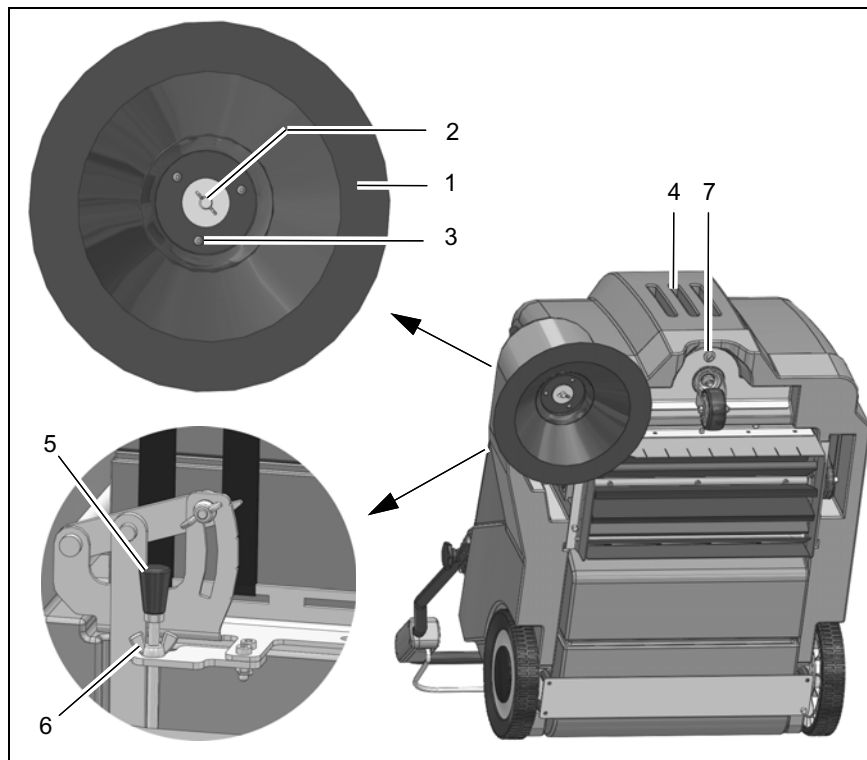

Fig.8
Check the side brush (Fig. 8/1) weekly and change in the case of wear.
2. Remove the wing bolt (Fig. 8/2) with the washer from underneath the side brush (Fig. 8/1).
4. Position the new side brush on the carrier (Fig. 8/3) and fix in place with the wing bolt and washer.
In the case of brush wear, and after changing the side brush (Fig. 8/1), re-adjust the sweeping pattern.
1. Switch the machine off, unscrew the locking bolt (Fig. 8/7) and open the hood (Fig. 8/4).
2. Loosen the counternut (Fig. 8/6) and adjust the sweeping pattern by turning the adjusting bolt (Fig. 8/5) clockwise and counterclockwise so that it touches the floor.
8. Close the hood (Fig. 8/4) and screw the locking bolt (Fig. 8/7) back in.